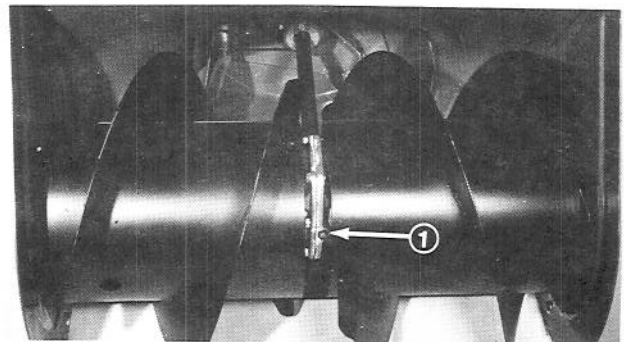

Figure 35
4. Put a drain pan below the pipe plug (Fig. 35) at front of auger gear box and remove pipe plug: refer to Check Auger Gear Box Oil, page 10.